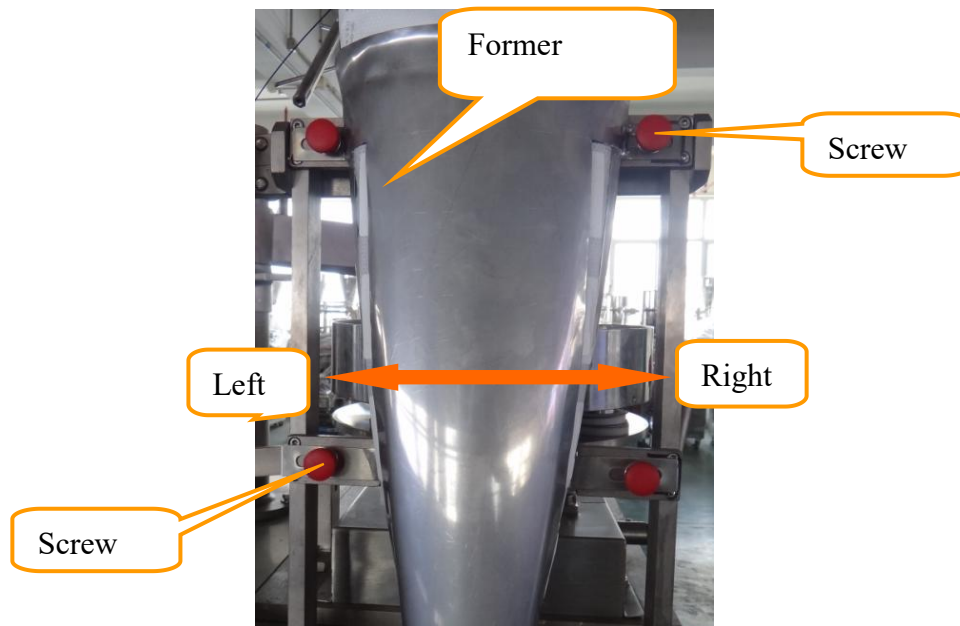

Fig. 5-1 Adjustment of former
3. When the former is tuned properly, retighten the 4 screws (see fig. 5-1).